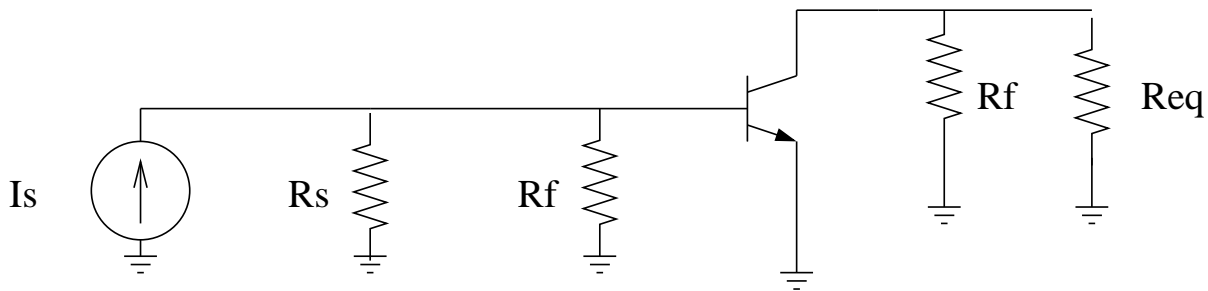

Figure 6: Equivalent Amplifier Loaded by Feedback Resistor
- **The Open Loop Gain, A** One tricky thing about analyzing feedback systems this way is calculating the correct value of the gain A. First of all, because we are sensing an output voltage and feeding back a current, the gain A is actually a transresistance (i.e. $A = V_{out}/I_{in}$). In addition, one might be tempted to simply use the gain of the amplifier without R_f as A, but this is not always correct. If the feedback network loads the amplifier (as it certainly does in our case), then you must include the effects of the effective input and output impedance presented by the feedback network at the input and output of the amplifier. With a simple resistor in the feedback loop, it turns out that our amplifier is loaded on both sides by R_f to ground, as shown in Figure 6. Recall that we have also included R_{eq} at the output, which is the parallel combination of R_t , the tank impedance of our LC tank, and R_L , the input impedance of the next stage. Note also that, **in terms of this feedback analysis, we must include R_f and R_{eq} when we calculate Z_{inOL} and Z_{outOL} .**